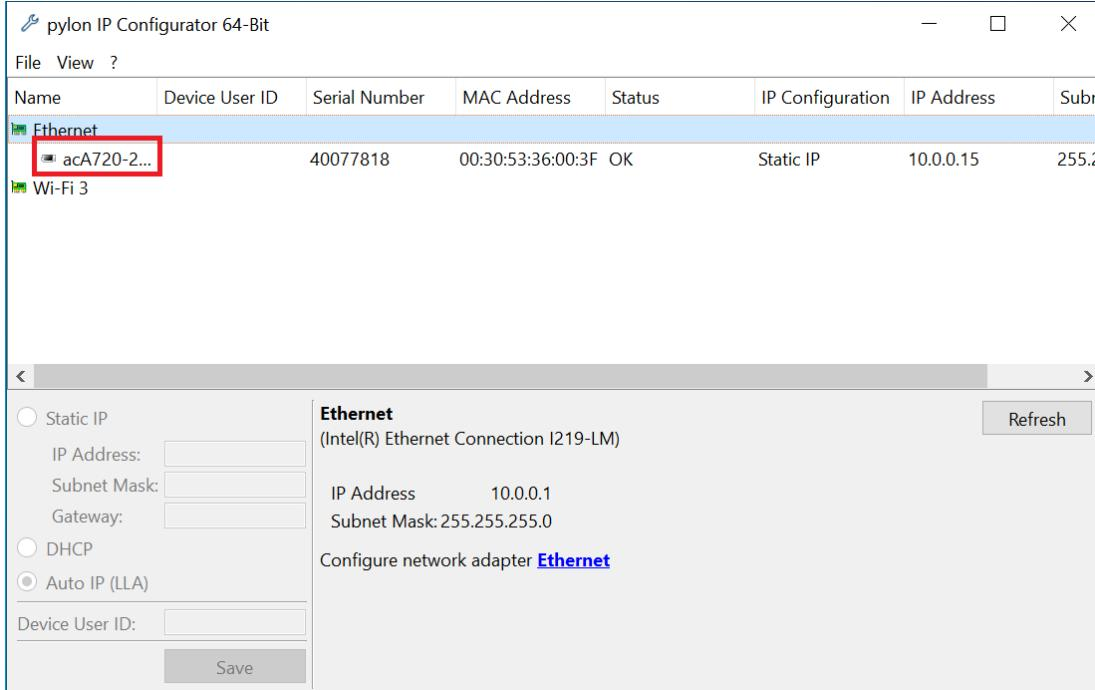

Figure 7: Locate the camera device in Pylon IP Configurator
- Open Pylon IP Configurator. Under Ethernet, there should be a camera device (Figure 7). If no device shows up, the camera is likely not properly connected to the computer.